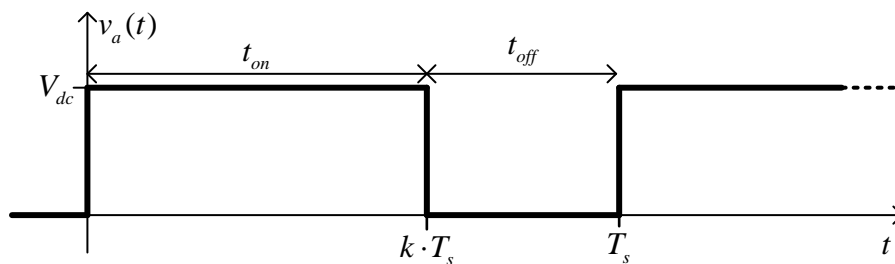

Figure 6: Waveform of the voltage applied to the DC-motor terminals (v_a)
- b) Consider the waveform for $v_a(t)$ presented in Figure 6. Find the expression of the average